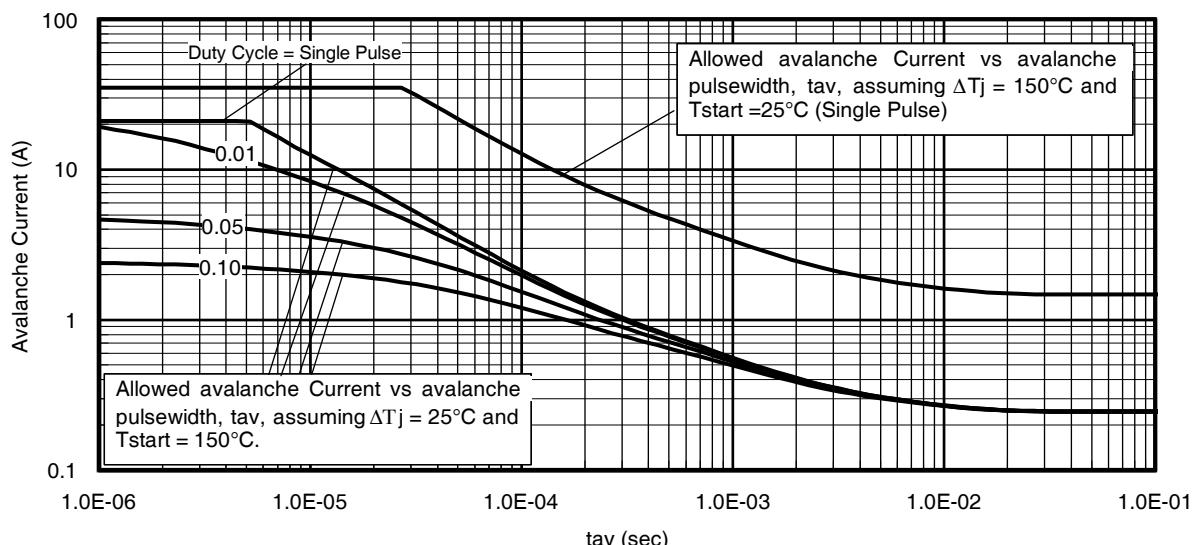

Fig 14. Typical Avalanche Current Vs. Pulsewidth
- ① Repetitive rating; pulse width limited by max. junction temperature.
- ② Starting $T_J = 25^\circ\text{C}$, $L = 0.51\text{mH}$, $R_G = 25\Omega$, $I_{AS} = 21\text{A}$.
- ③ Pulse width $\leq 400\mu\text{s}$; duty cycle $\leq 2\%$.
- ④ R_θ is measured at T_J of approximately 90°C .
- ⑤ Limited by T_{jmax} . See Figs. 14, 15, 17a, 17b for repetitive avalanche information.
- ⑥ When mounted on 1" square PCB (FR-4 or G-10 Material). For recommended footprint and soldering techniques refer to application note #AN-994.
Notes on Repetitive Avalanche Curves , Figures 14, 15:
7. ΔT = Allowable rise in junction temperature, not to exceed T_{jmax} (assumed as 25°C in Figure 14, 15).